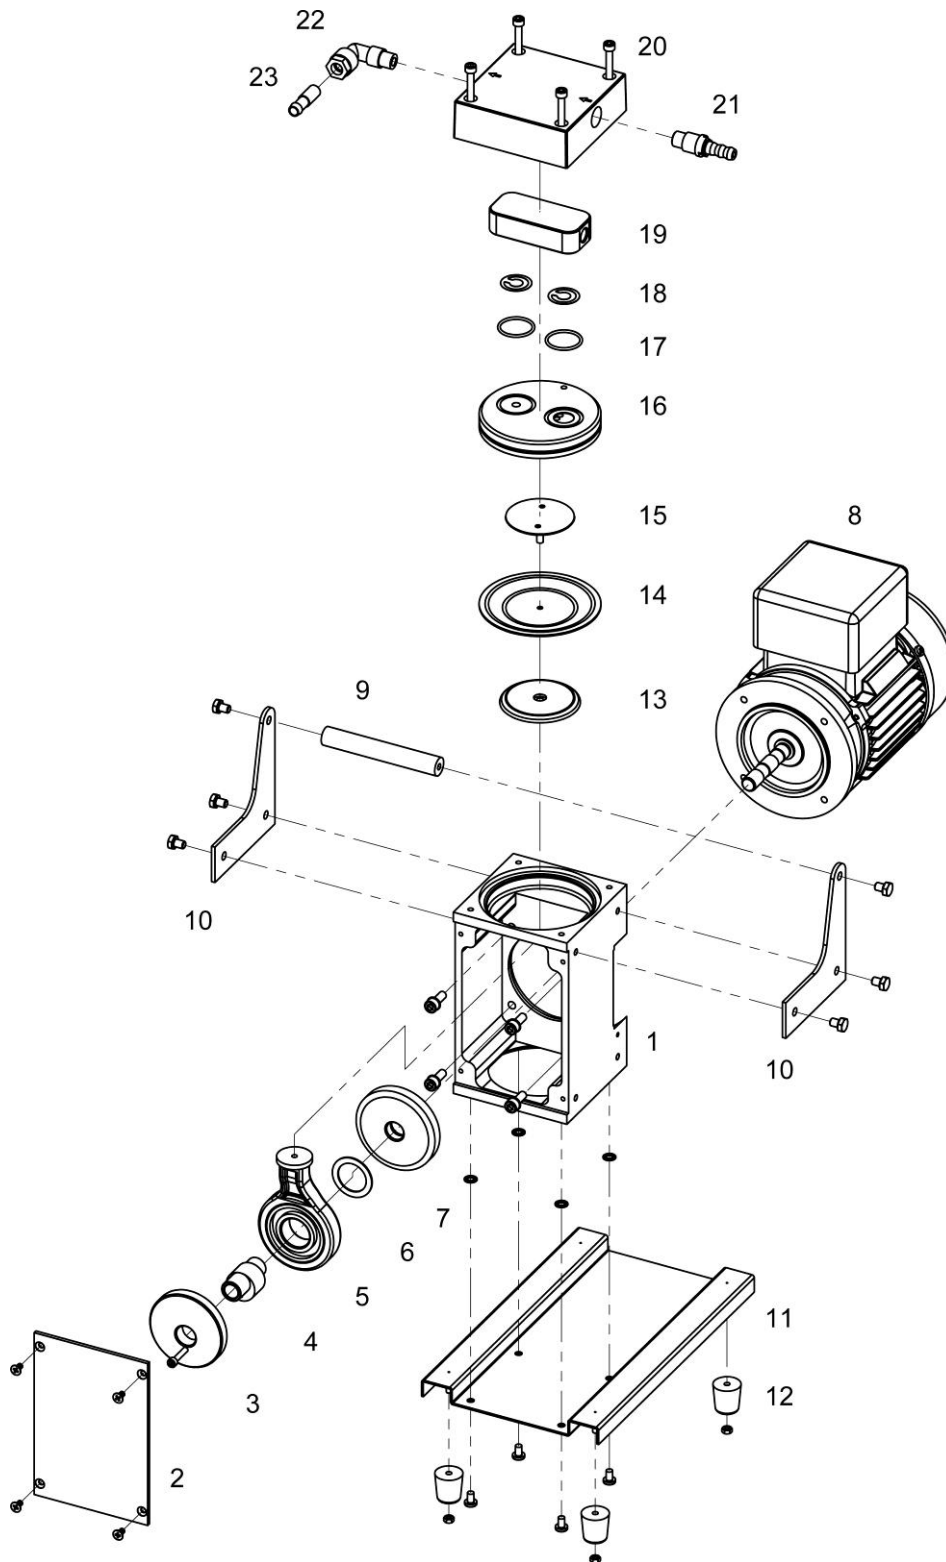

Fig. 5 Exploded view (MPC 301 E)
2. Bring the connecting rod (see Fig. 5) and the diaphragm **(7)** into the central position.